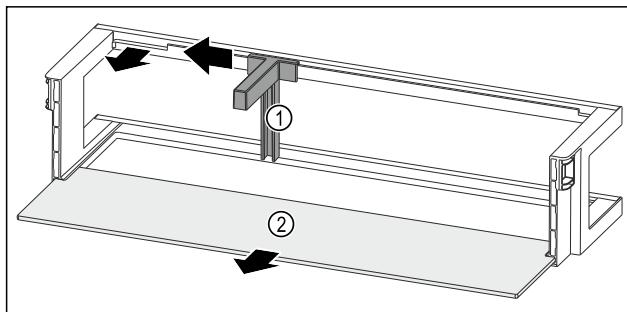

Fig. 149 Door rack with bottle holder and shelf
- ▶ Slide the bottle holder Fig. 149 (1) to the side as far as the recess.
- ▶ Remove the bottle holder Fig. 149 (1).
- ▶ Remove the shelf Fig. 149 (2).